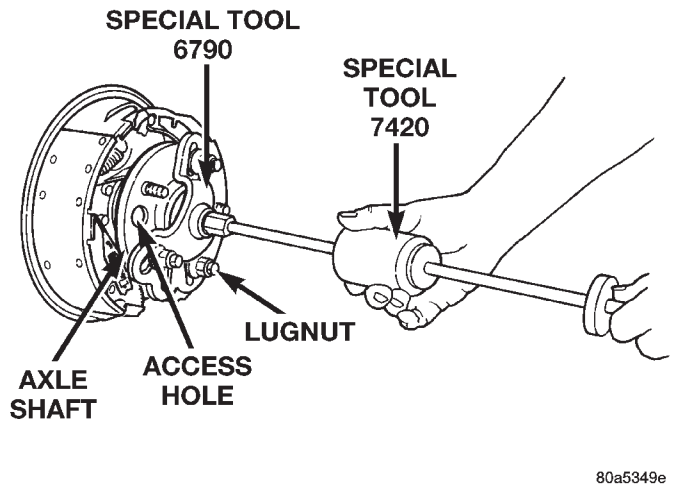

Fig. 11 Axle Shaft, Remove
- (1) Hoist and support vehicle on safety stands.
- (2) Remove wheel from vehicle.
- (3) Remove brake drum. Refer to Group 5, Brakes, for proper procedure.
- (4) Through access hole in axle flange, remove nuts holding axle retainer plate to axle tube.
- (5) Using Slide Hammer 7420, Adapter 6790, and suitable lug nuts, pull axle shaft from vehicle (Fig. 11).